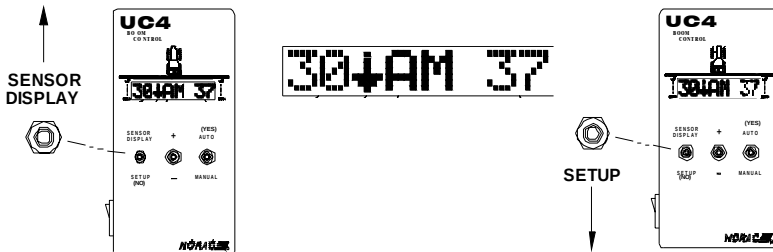

Figure 1 – SENSOR DISPLAY / SETUP Switch and Normal Operating Screen
- the system is ready for use once the Normal Operating Screen (**Figure 1**) is displayed
- To return to the Normal Operating Screen toggle and hold the "**SETUP (NO)**" switch for two seconds